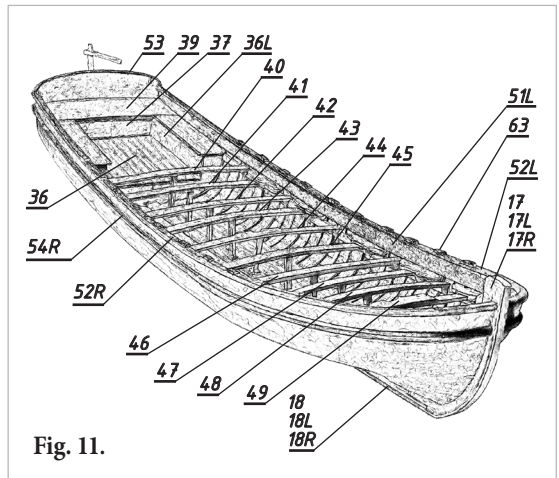
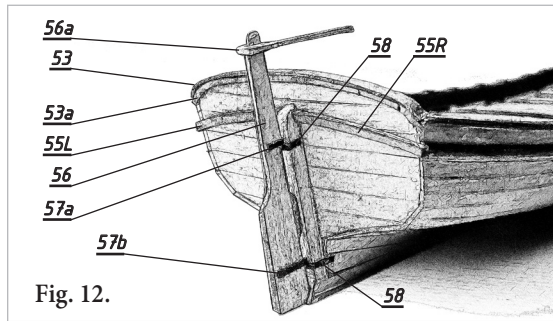

Fig. 11.
Fig. 12.
Install gunwales (*part 52L*) and (*part 52R*) from above to the sides so that they are flush with the surfaces of the inner stringers and protrude approximately 1-1.5 mm over the side. Round the outer edges of the gunwales with a radius of about 0.3 mm. (Fig. 11).
Install fenders (*part 54L*) and (*part 54R*). Fenders should run along the lower edge of the top side board plank. Install the fenders on the transom (*part 55L*) and (*part 55R*). They must be an extension of the side fenders on the transom (**Fig. 11, Fig. 12**).
05. Rudder. The steering device consists of the actual rudder (*part 56*) and tiller (*part 56a*). The tiller is put on with its slot on the head of the rudder. The whole assembly is fastened with hinges (*part 57a*) and (*part 57b*) to the sternpost, on which the sternpost mating hinges are also installed (*part 58*) (**Fig. 12**).
Install strips for the oarlocks (*part 63*) on the gunwales of both sideboards in place between thwarts. (see **Fig. 11**).